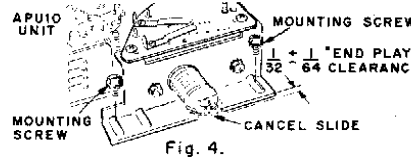

Fig. 4.
3. Remove mounting screws. (Fig. 4).
6. To get proper Cancel Slide "end play" clearance of $\frac{1}{32} \pm \frac{1}{64}$ slide APU10 backward or forward. This is IMPORTANT for unit to subtract properly. (Fig. 4). SEE NOTE BELOW.